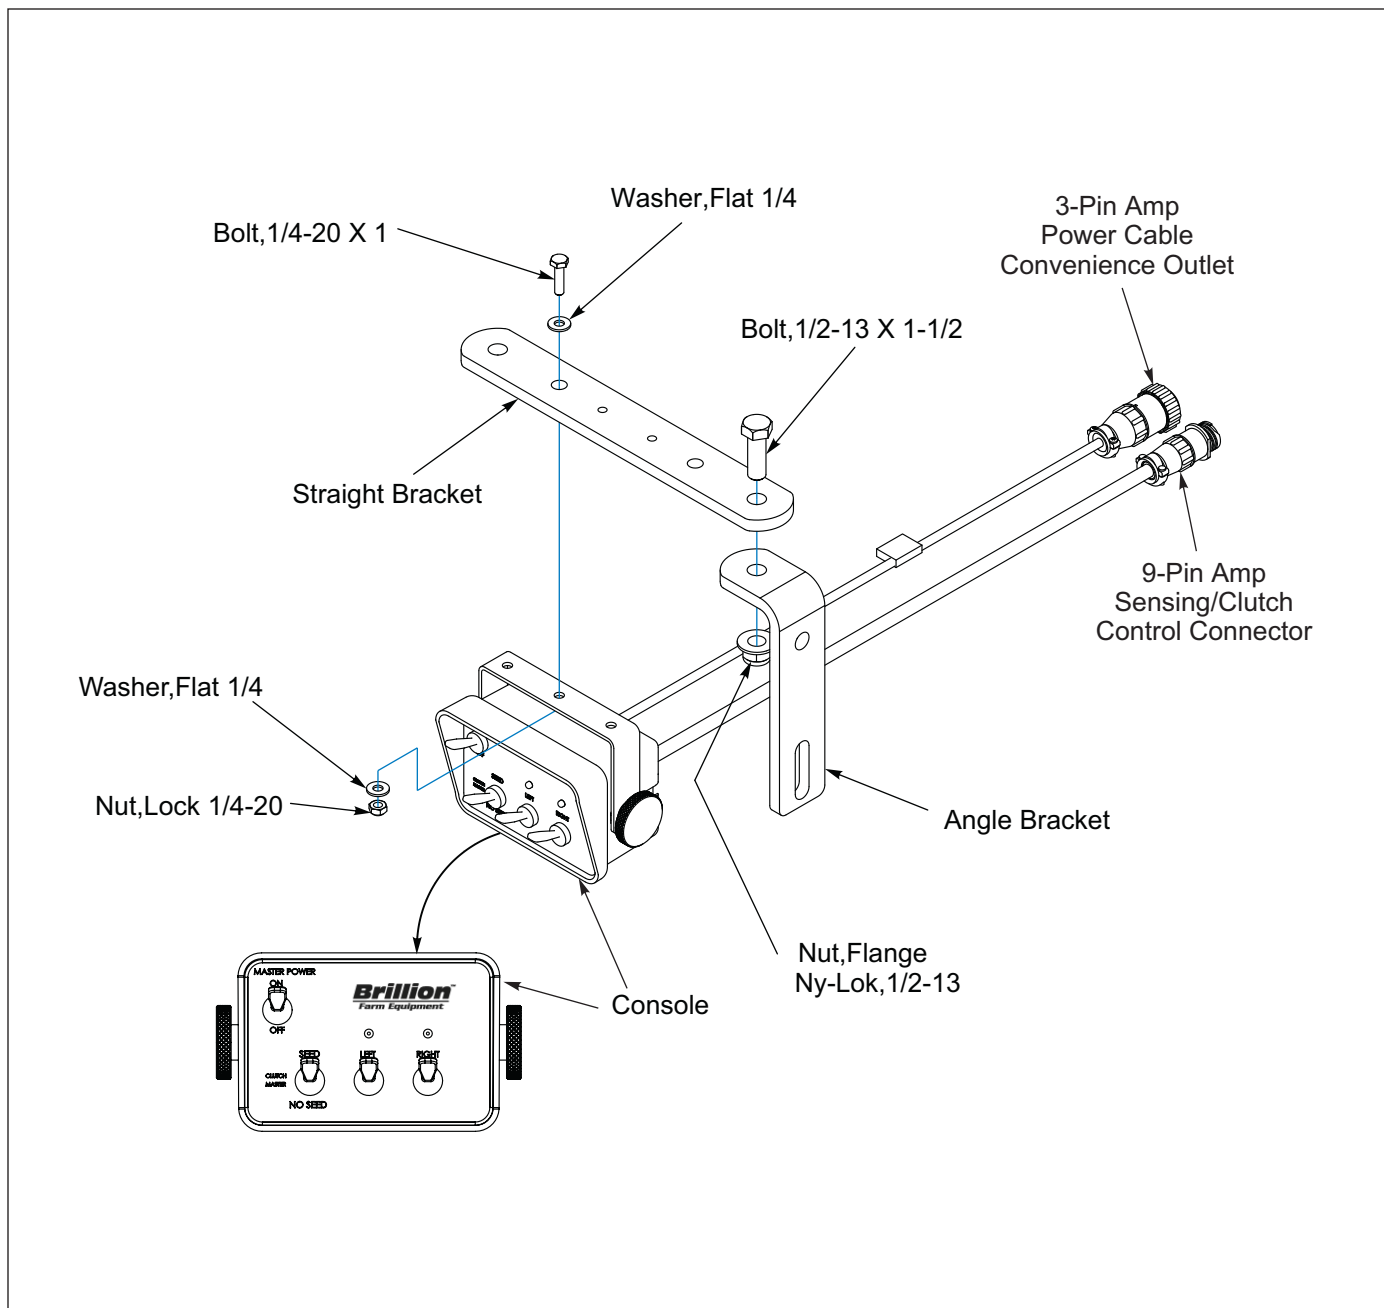

Figure 2-9: Console w/Clutch Control Tractor Installation
1. Mount Clutch and Seed Shaft Sensor Console Angle Bracket onto Tractor Bracketry where convenient for the operator. **See Figure 2-9.**